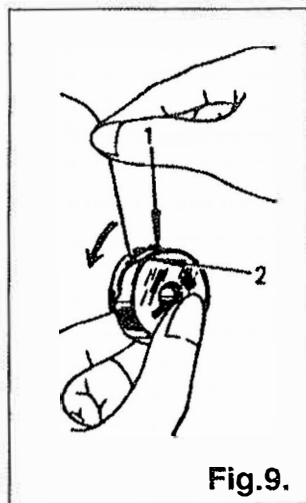

Fig. 9.
2. Pull thread into notch (1), and draw it under tension spring (2) (see Fig. 9).